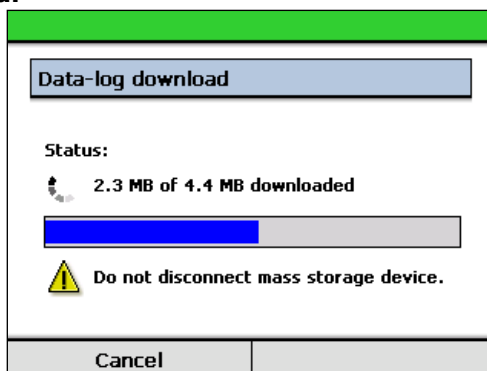

Figure 36 **Data-Log Download in Progress**
- 3] To begin the download, press the 'Start download' context button. The progress of the download will be shown on screen as per Figure 36. The download may take several minutes depending on the number of files currently stored.